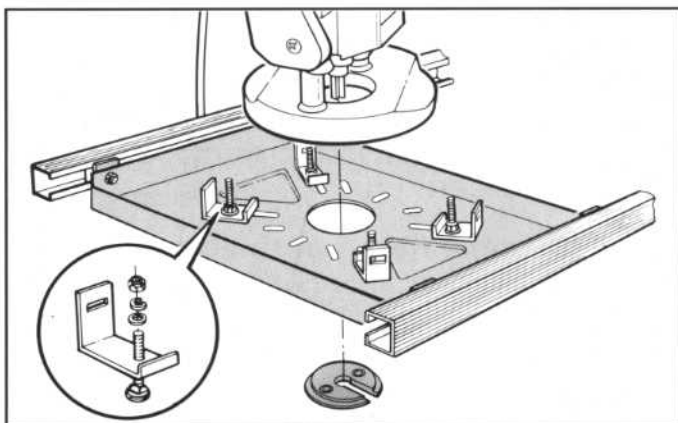

FIGURE 3
Fit the mounting plate (J) into the bearing channels of your Workcentre or Router Stand, as shown in **Figure 3.**